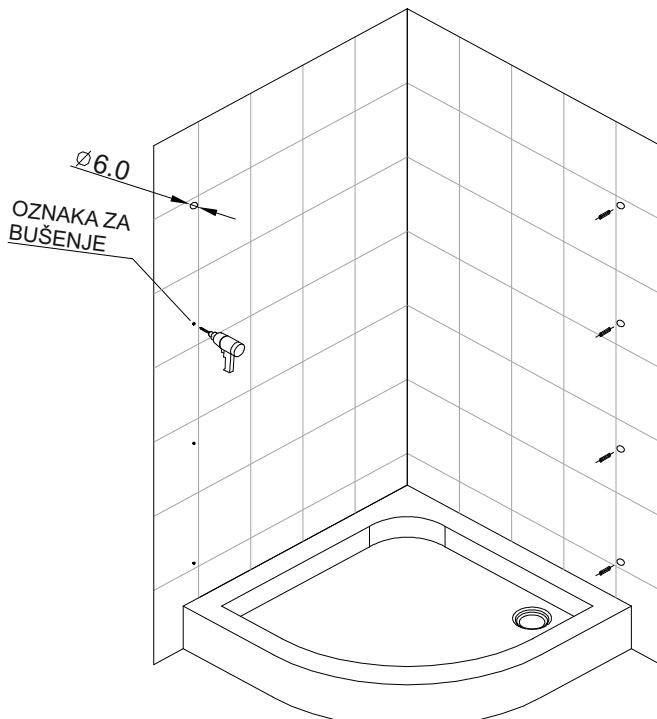

Fig. 2
- 2) Drilling the holes (8-- φ 6mm) according the mark, insert the 1) plastic plug into the holes . As Fig.2